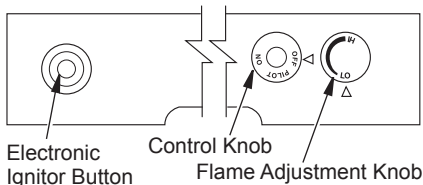

Figure 28 - Control Knob and Ignitor Button Location
3. Press in and turn control knob clockwise to the OFF position (see Figure 28).
4. Wait five (5) minutes to clear out any gas. Then smell for gas, including near the floor. If you smell gas, STOP! Follow "B" in the safety information, page 19. If you don't smell gas, go to the next step.
5. Press in and turn control knob counter-clockwise to the PILOT position. Press in control knob for five (5) seconds (see Figure 28).